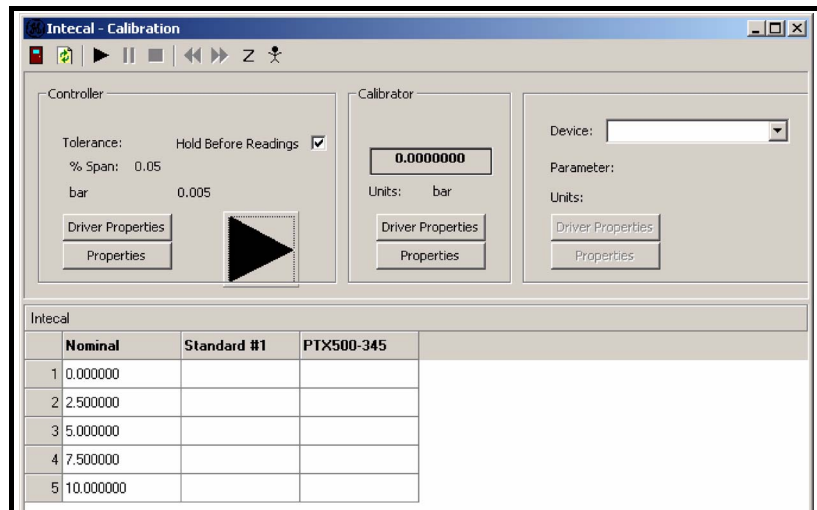
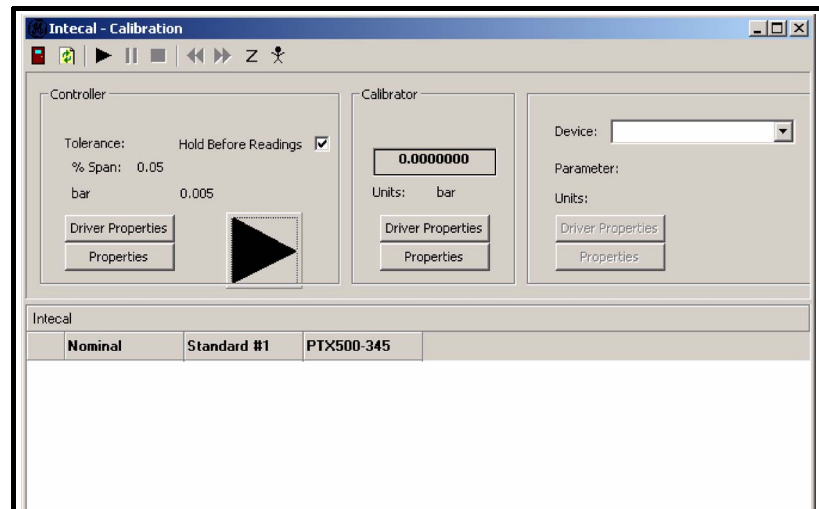

Figure 7-6: Calibration window
Figure 7-7: Calibration window (Adjustment)
- When the *Calibration System* is correct, click on OK. This opens the “*Calibration*” window (Figure 7-6).
Figure 7-6 shows the *Calibration* window that opens:
3. When the *Calibration System* is correct, click on OK. This opens the “*Calibration*” window (Figure 7-7).
Figure 7-7 shows the *Calibration* window for the *Adjustment Cycle*. This is almost the same as the normal *Calibration* window. Refer to Figure 7-6 and the related text.